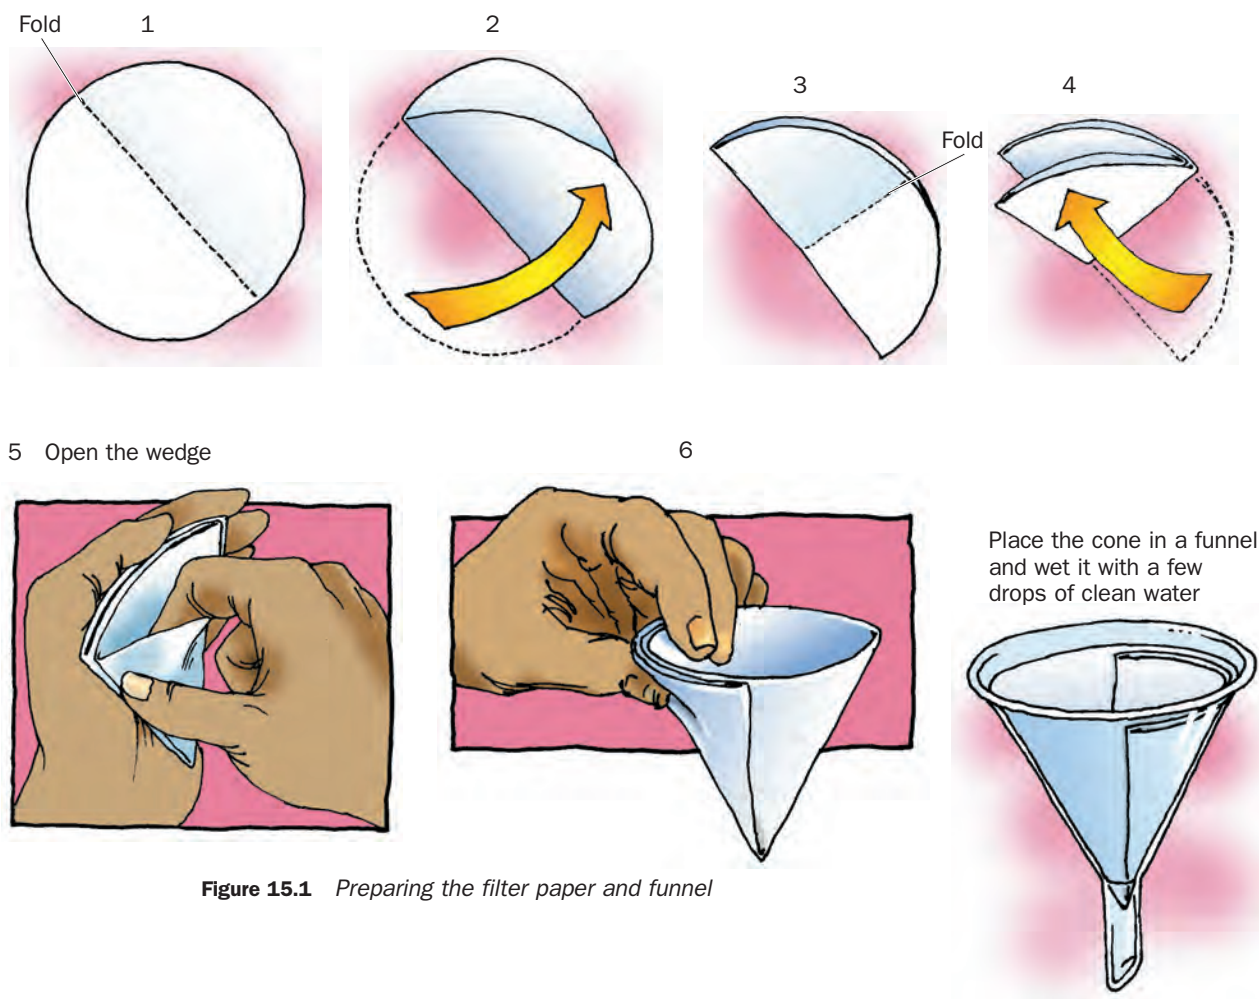

Figure 15.1 Preparing the filter paper and funnel
- 1.** Your teacher will show you how to fold a piece of filter paper and insert it into a filter funnel. As shown in this demonstration and in Figure 15.1, fold the paper and fit it inside the filter funnel. Wet the paper with a few drops of water so that it sticks to the funnel walls. Observe whether the water passes through the filter paper.